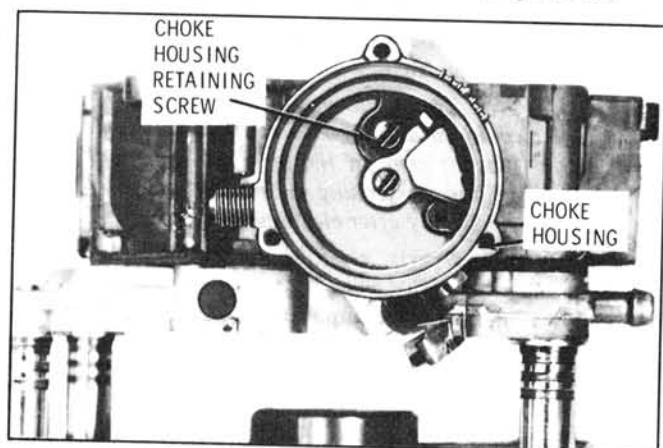

FIGURE 39
CHOKE HOUSING ATTACHMENT (Figure 39)
4. Remove choke housing assembly from float bowl by removing retaining screw and washer inside the choke housing (Figure 39). The complete choke assembly can be removed from the float bowl by sliding outward. Remove plastic tube seal from choke housing.